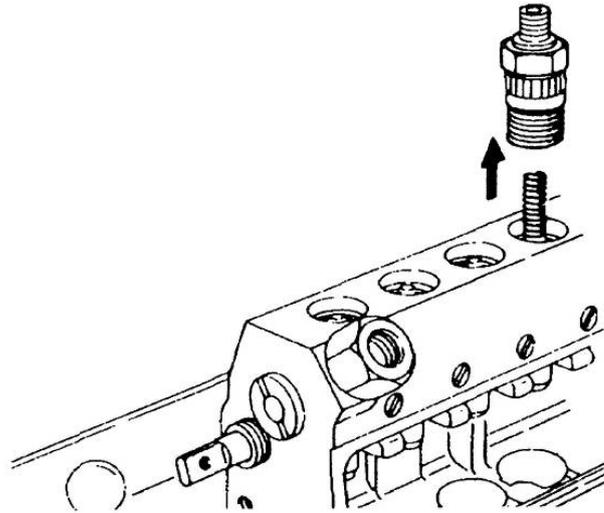

Figure 75 Removing the Delivery Valve Holders and Springs
- x.** Remove the delivery valve holder locking plates and slacken the delivery valve holders using a suitable socket (special tool 157914-0500). Remove the delivery valve holders and the delivery valve springs (Figure 75).